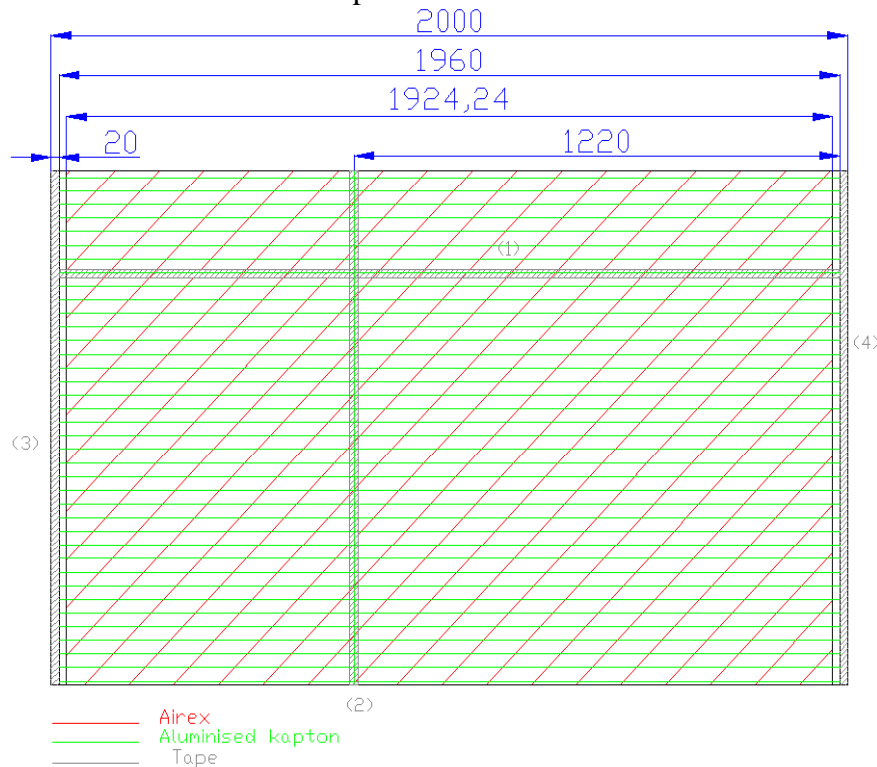
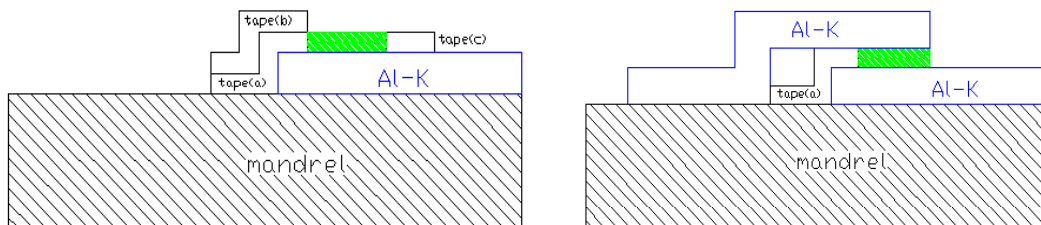

Fig 4. Distribution of the Al-k on the mould
Fig 5. Adding the glue and gluing the overlap between Al-k layers
4. Place the first sheet of Al-k on the mould cylinder. Tape one end of the Al-kapton (1) on fig 4, to the mould avoiding any movement when extending the film.
5. Manually extend the kapton film while rotating the cylinder tooling to eliminate any crease, fixing it at the lateral flange ends (2) and (4) on Fig 4 until 360 degrees has been covered.
6. Place a second tape over the existing tape n° 2 (see tape (b) on Fig 5). This second tape will cover the first one (tape (a) on Fig 5) at the same place. The purpose of it is to provide a surface that, if stained while applying the glue, could be later on removed.
10. Remove tape (1) on Fig 4 as the Al-k is well fixed by the lateral tapes.
11. At edge n° (2) on Fig 4, mark a line 10 mm inside the Al-k sheet and place another tape (tape (c) on Fig 5) following this line. This will define a 10 mm strip, the overlap between layers, to be filled with glue.
13. Apply the glue and remove the tape (b) & (c) on Fig5 that defined the lateral area filled with glue.
14. Place the second piece of Al-k, starting at the same point and fix it, as with the other sheet, at point (1) on fig 4.
16. Fix it with tape at point (3) on Fig 4.
23. Once glued, move it back to the mandrel fixing it laterally at points (3) and (4).